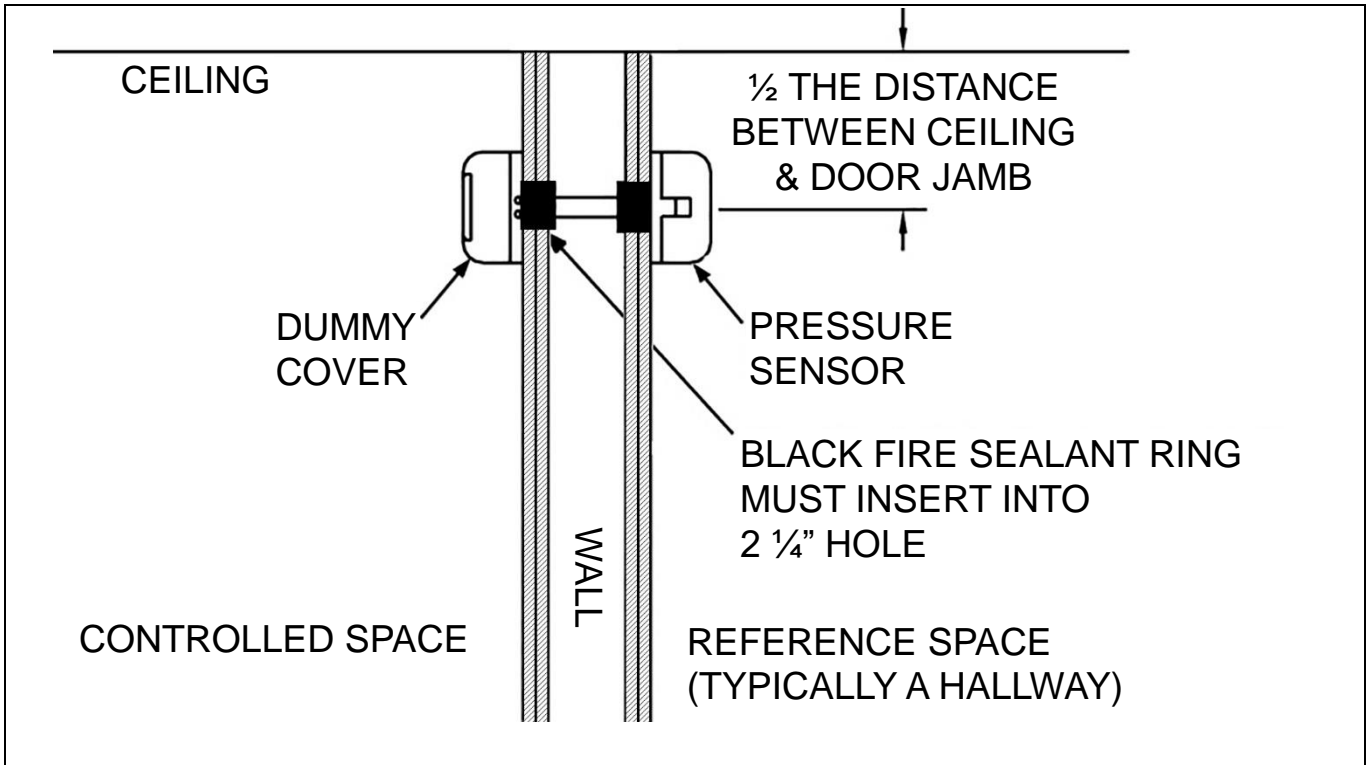
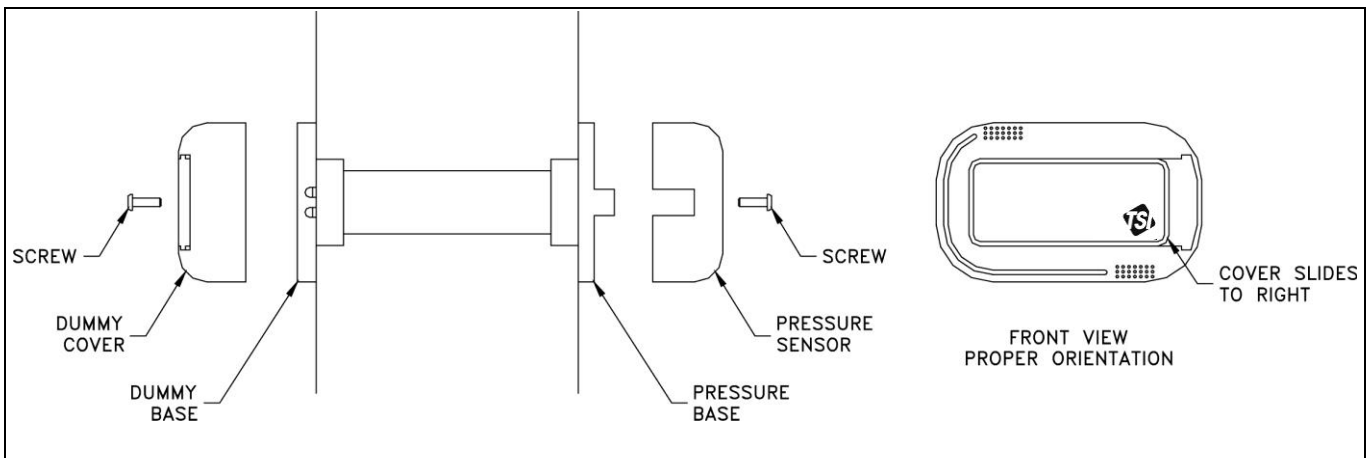

Figure 3: Cutaway View of Mounted Pressure Sensor
Figure 4: Pressure Sensor Mounting
800243 pressure sensor must be mounted through the wall between the controlled space (isolation room) and referenced space (hallway), exactly as shown in Figure 1 and Figure 3.
- Determine pressure sensor location (Figure 1, Figure 3 and Figure 4). Pressure sensor typically mounts in the reference space, and the dummy housing mounts in the isolation room.
- From the side of the wall the sensor will be mounted, slide the sensor tube through the wall. Slide the dummy base over the end of the tube. Screw the pressure sensor base and dummy base to the wall (Figure 3 and Figure 4).
- Install and screw the pressure sensor and dummy cover onto the bases. Slide covers to the left to hide the sensor. Finished installation should look as shown in Figure 4.